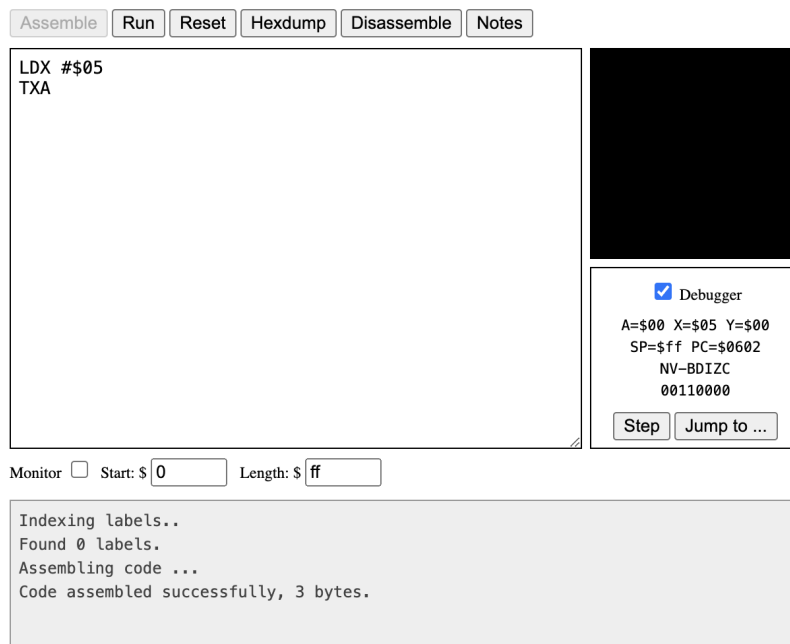
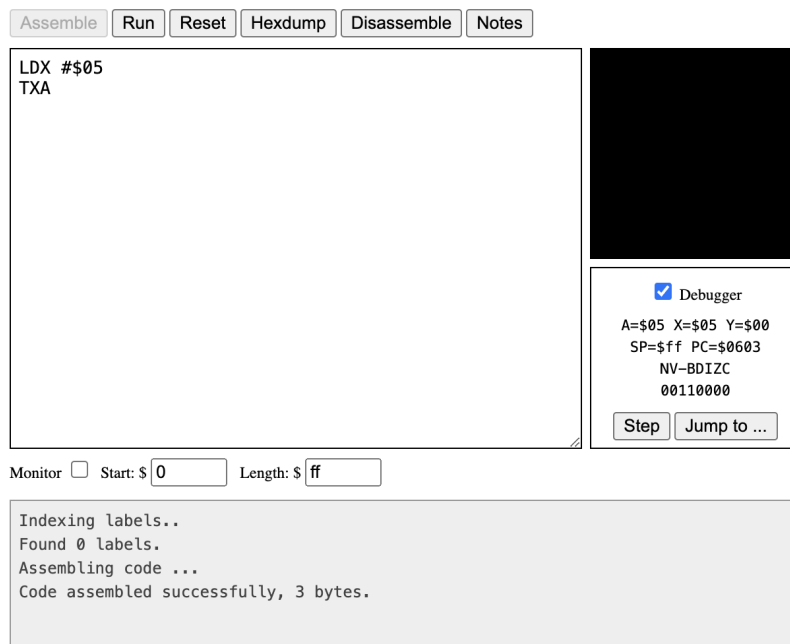

Figure 19: Step 1 of first exercise program related to *TXA* in instructions in the 6502 simulator
Figure 20: Step 2 of first exercise program related to *TXA* in instructions in the 6502 simulator
**Figure 19** and **Figure 20** show the debugger execution of *TXA*, and the code is below: